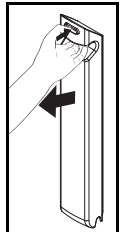

Fig. 3
- 4) When the batteries are fully charged, remove the pack from the charger. To do so, press the red button and pull the battery pack towards you (see Fig. 3). The LED remains green to show that the charger is powered.